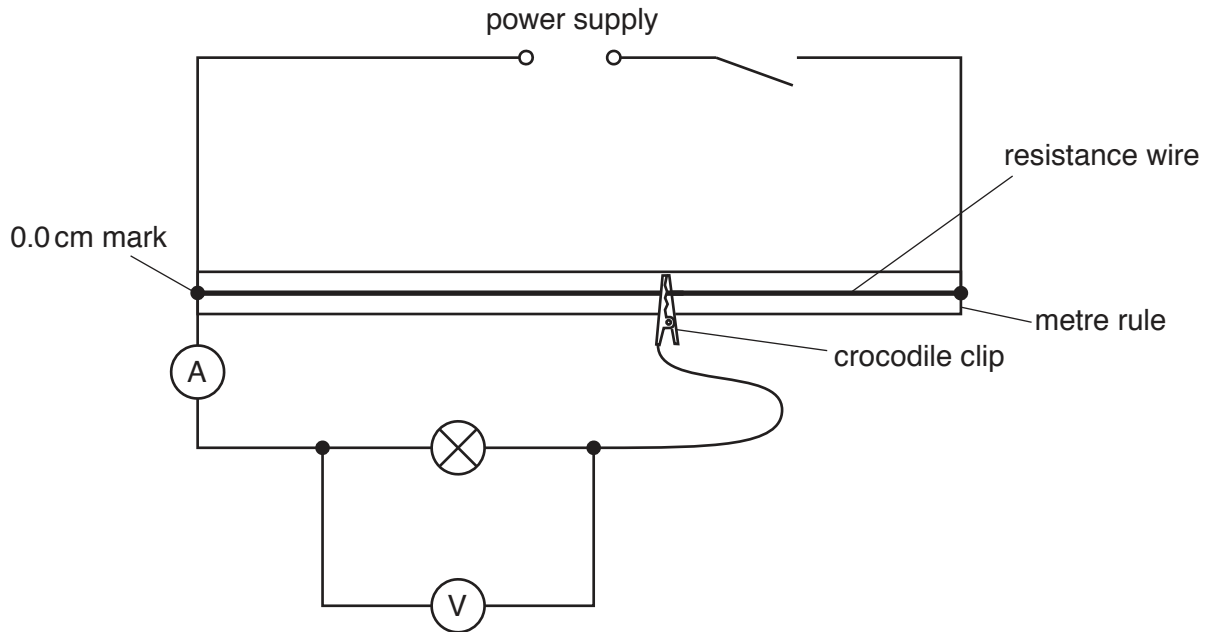

Fig. 1.1
- (vi) Sufficient connecting leads to set up the circuit shown in Fig. 1.1.
1. The resistance wire is to be fixed to the metre rule in such a way as to allow candidates to connect a crocodile clip to lengths of the wire from 20.0 cm to 100.0 cm. The 0.0 cm mark of the metre rule must be in the position indicated in Fig. 1.1. If the metre rule has two scales in opposite directions, one must be taped over.
2. The circuit is to be set up for candidates as shown in Fig. 1.1, with the crocodile clip clipped to the resistance wire. The position of the crocodile clip is not important.
Ensure that the circuit is connected as shown in Fig. 1.1 and check that the circuit and the lamp are working.